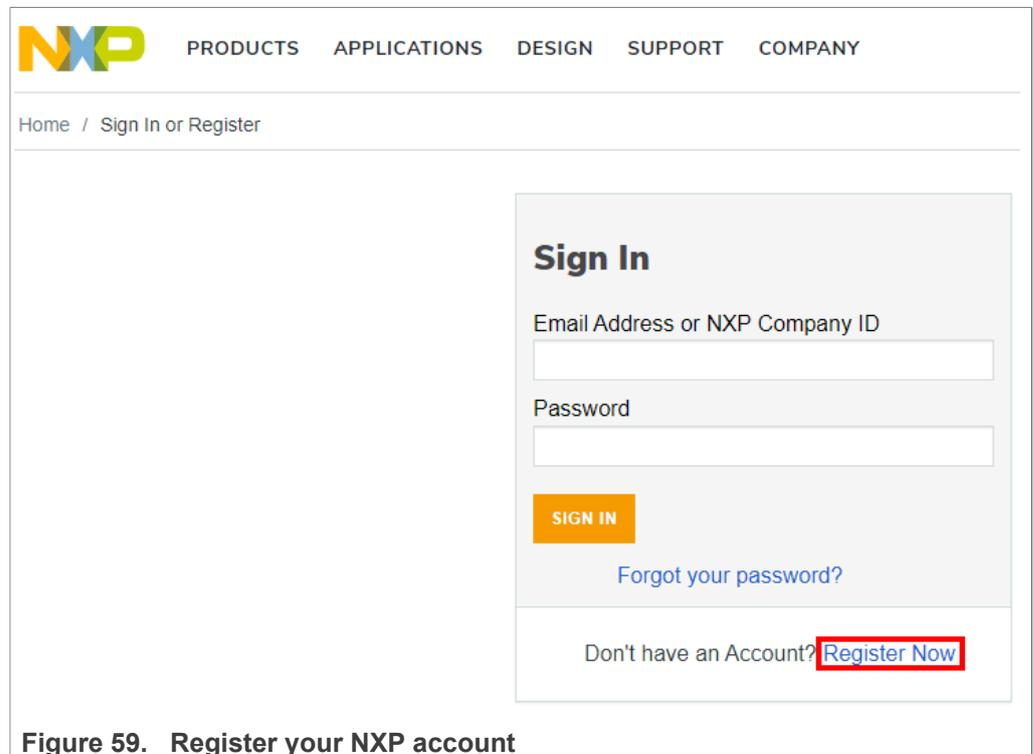

Figure 59. Register your NXP account
2. You will be asked to sign-in with your account at the NXP website. If you do not have an account, click on **Register Now** as shown in Figure 59: